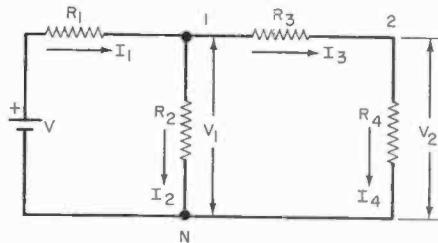

Fig. 10
**Ex. 11.** Referring to Fig. 10, write the necessary equations to solve for  $V_1$  and  $V_2$ . **Sol.** From Fig. 10,  $V_1$  is taken